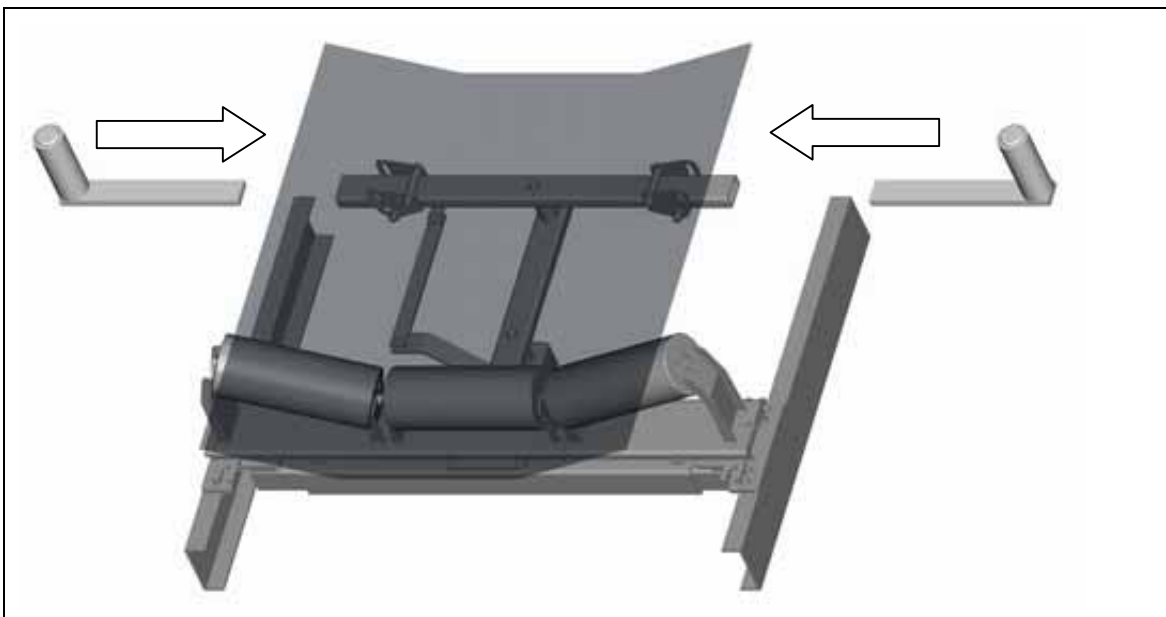

Fig. 23: Installing the sensor roller unit
12. Insert the sensor roller unit in the guide unit (Fig. 23).